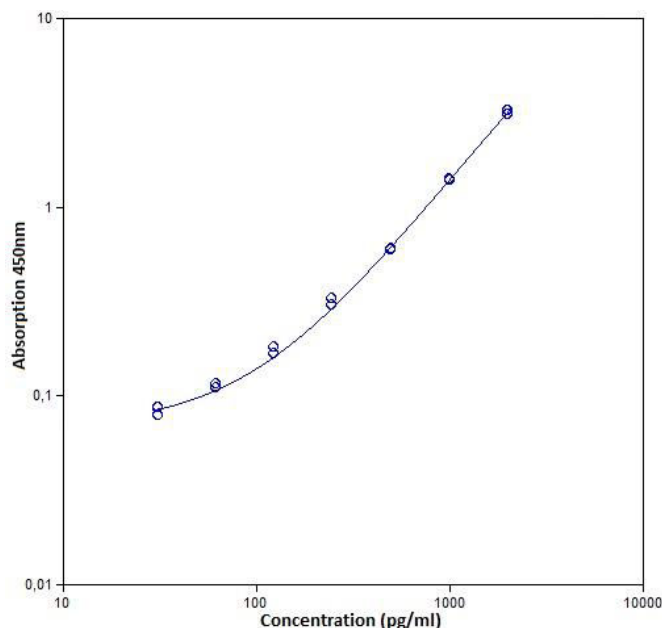

Fig. 9 Representative standard curve for human TGF β 1 ELISA. Human TGF β 1 was diluted in serial 2-fold steps in Assay Buffer (1x).
- A representative standard curve is shown in Figure 9.